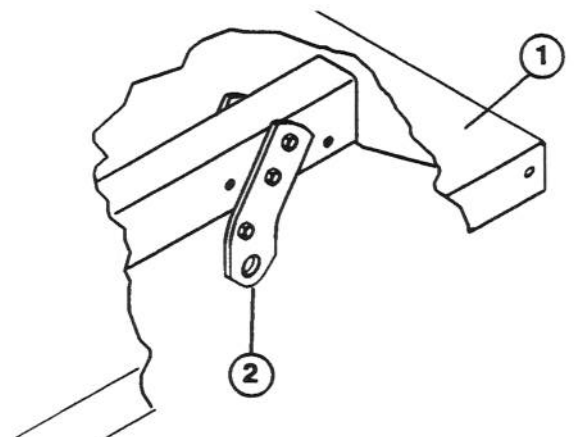

Figure 5
4. Mount each set of rear pivot plates to the right and left bed frame channels with the capscrews and locknuts previously removed. Position the brackets on the full bed as shown in figure , and for the 2/3 bed as shown in figure 5 .